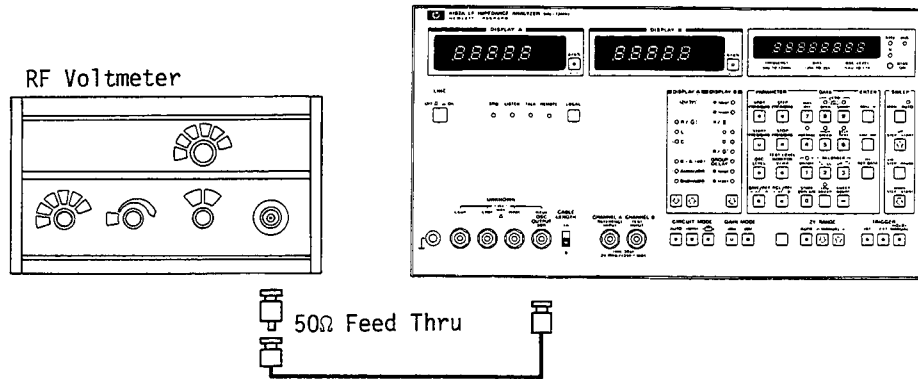

Figure 4-2. Measurement Signal Level Accuracy Test Setup.
- a. Connect the H_{CUR} terminal of the 4192A to the input of the 3403C through the 50Ω termination as shown in Figure 4-2.